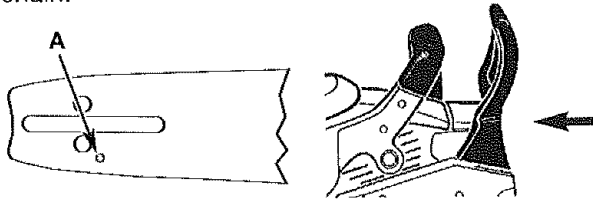
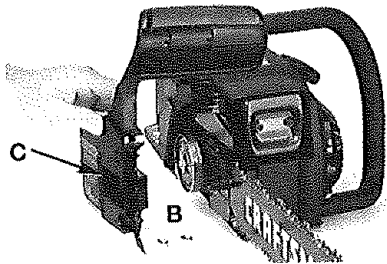
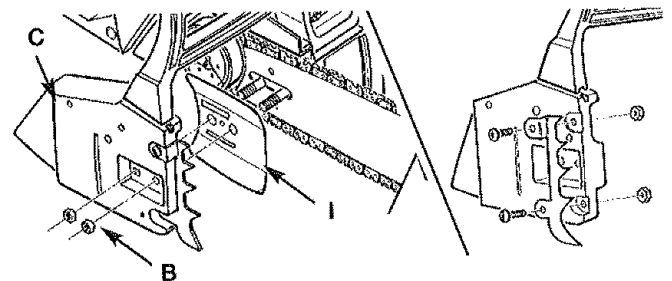
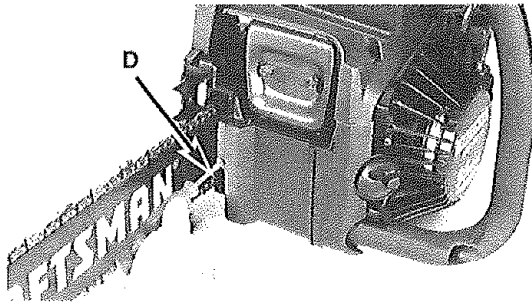

Fig. 21
Fig. 22
Fig. 27
Fig. 28
CAUTION: To ensure the bar and chain receive oil, **ONLY** USE THE ORIGINAL STYLE BAR with the oil passage hole (A) as illustrated in Fig. 21.
1. Make sure the Chain Brake® lever is pulled back into the DISENGAGED position (Fig. 21). Remove bar retaining nuts (B, Fig. 22) with supplied multi-purpose tool.
2. Remove chain brake cover (C, Fig. 22) and outer guide bar plate (I, Fig. 27) by pulling straight out (Fig. 22).
6. Replace the outer guide bar plate (I) so the bent edges (top and bottom) are directed away from the chain (Fig. 27).
7. Install the Chain Brake® cover (C, Fig. 27). Make sure the chain does not slip off of the bar. Install the 2 bar retaining nuts hand tight and follow instructions in Saw Chain Tension Adjustment.
1. Loosen the bar retaining nut(s) (B, Fig. 27). Hold nose of guide bar up and turn adjustment screw (D) CLOCKWISE to increase chain tension. Turning screw COUNTERCLOCKWISE will decrease amount of tension on chain. Ensure the chain fits snugly all the way around the guide bar (Fig. 28).